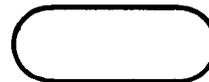

Fig. 17—Terminal Symbol
2.17 *The terminal symbol* (Fig. 17) represents a terminal point in a flowchart; for example, start, stop, halt, delay, or interrupt.